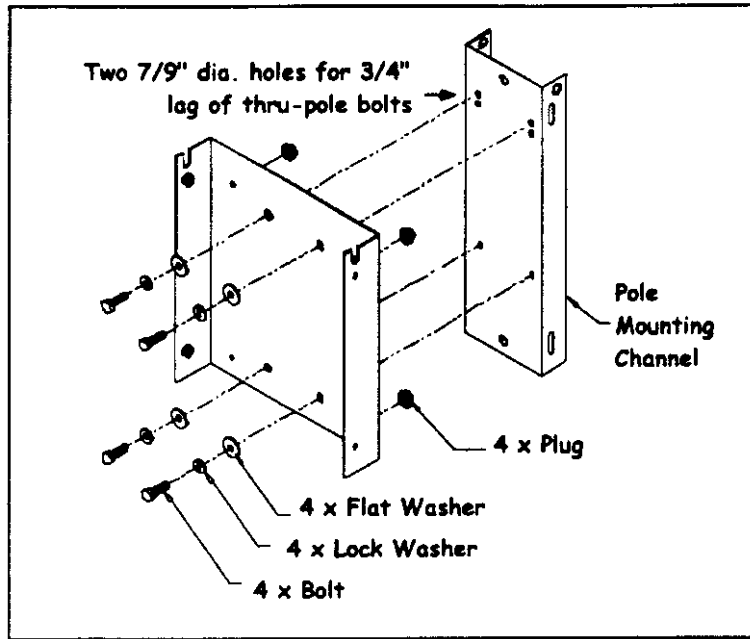

Figure 12. Pole Mounting Hardware
2. Using the hardware provided with the accessory kit, secure the rear mounting bracket to the two (2) pole brackets—see Figure 12 on page 22.